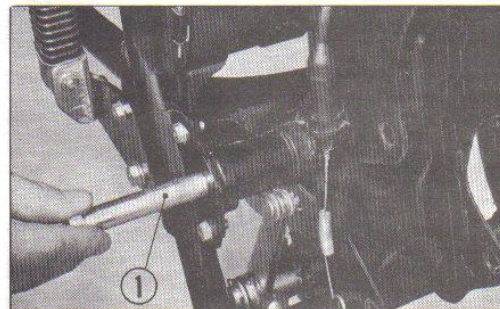

Fig. 179.
① Rear shock absorber spring ② Vernier caliper
- After reassembly, compress the rear suspension with hands shown in Fig. 179 and check to see that the rear shock absorber is not to hit to any part.